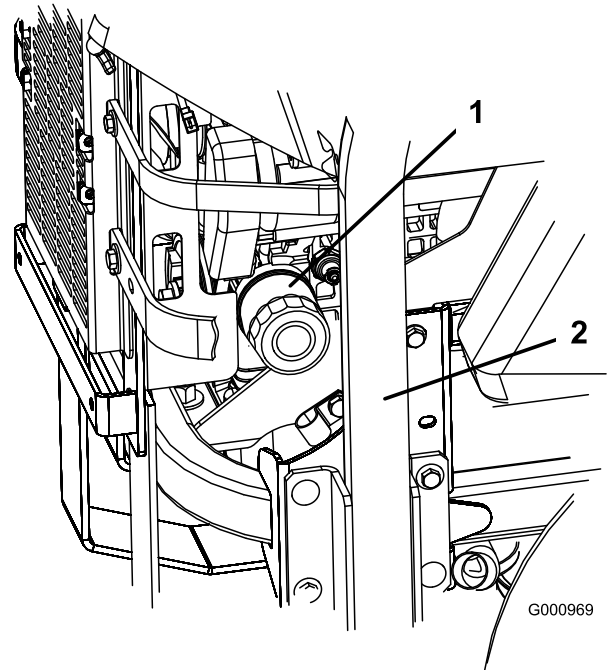
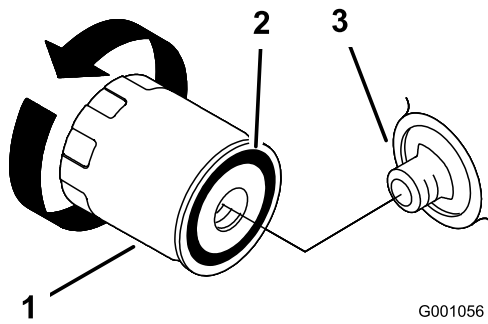

Figure 39
Figure 40
2. Turn the filter counterclockwise to remove it (Figure 39 and Figure 40).